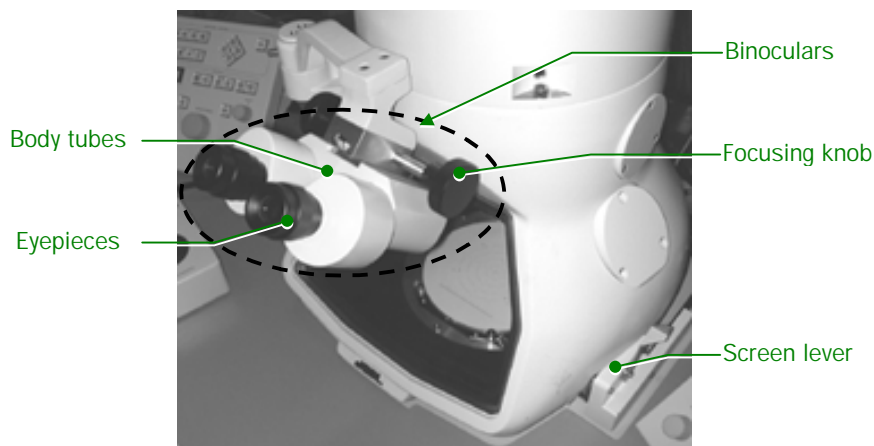

Fig. 5.22
4. Immerse the film in a developer ($20 \pm 0.5^\circ\text{C}$); and leave it in until the exposed latent image becomes sufficiently visible (☞ usually three or four minutes; Fig. 5.22).